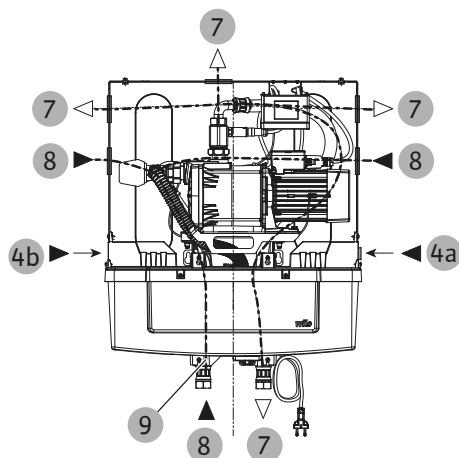

Fig. 14: Hydraulic connections
- Connection for industrial water distribution (G 1" union nut) (Fig. 14, Item 7).
- Tap water pipe (G 3/4") (Fig. 14, Item 4 or Turn tap water connection [► 56] section Item 4a or 4b)
A connection with a flexible hose in conjunction with a shut-off valve is strongly recommended. The connection to the replenishment valve (Fig. 14, Item 4) should be made with a flat seal and a union nut.
- Suction line from the rainwater storage tank (G 1" union nut) (Fig. 14, Item 8)
- Connect overflow connection (Fig. 14, Item 9) for small leakages with overflow hose (on-site, Ø 19–21 mm inside diameter) (Fig. 2, Item 29)
The tap water inlet (Fig. 1, Item 4) is fitted as standard on the right-hand side (Fig. 14, Item 4a) of the replenishment reservoir. To facilitate installation, it is possible to switch to the left side (Fig. 14, Item 4b).